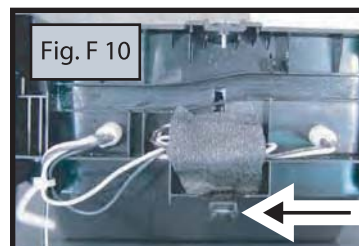

Fig. F10
6. Use adhesive pad to secure wires. (Fig. F10)